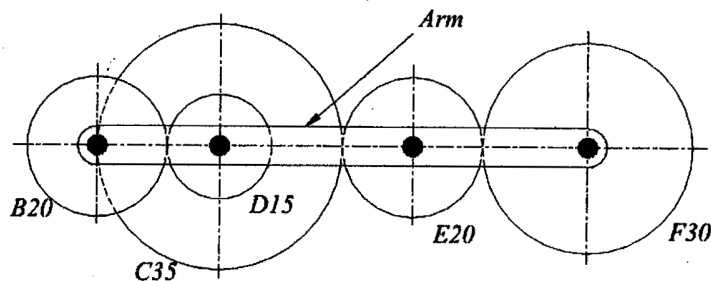

Figure 4
- Q4. a) The Figure 4, shows an Epicyclic gear train. Wheel E is fixed and wheels C and D are integrally cast and mounted on the same pin. If arm A makes one revolution per sec (Counter clockwise) determine the speed and direction of rotation of the wheels B and F.